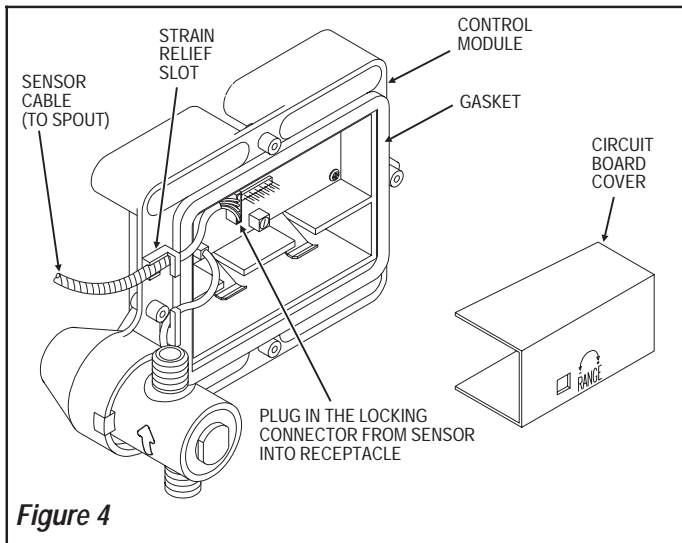

Figure 4
Step 4 — Connect Sensor Cable to Control Module (Figure 4)